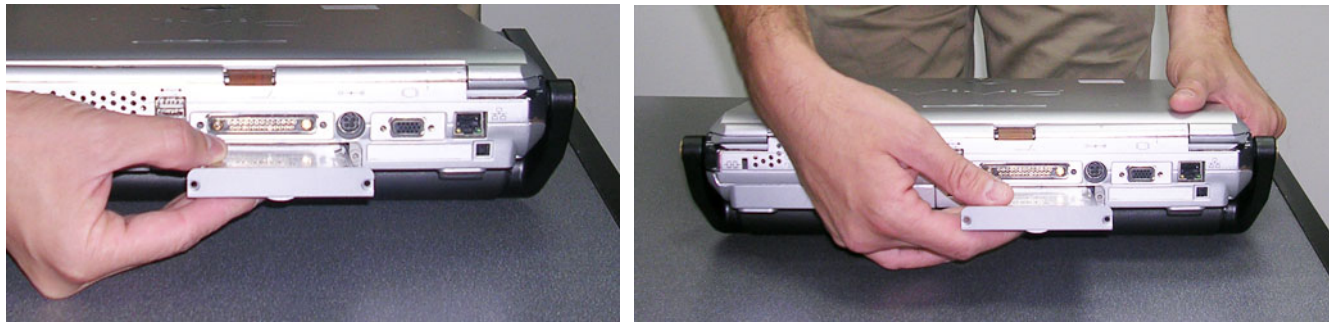

Figure 8-7 Removing the Hard Disk
- 3) With both hands, tilt the rear end of the scanner *upwards* then, holding it steady with one hand, remove the Hard Disk from the system by holding the grip and pulling it straight out of the hard disk module holder, as shown in Figure 8-7 below.
- 1) Place the new hard disk in position in the hard disk module holder - see Figure 8-7 on page 8-8.